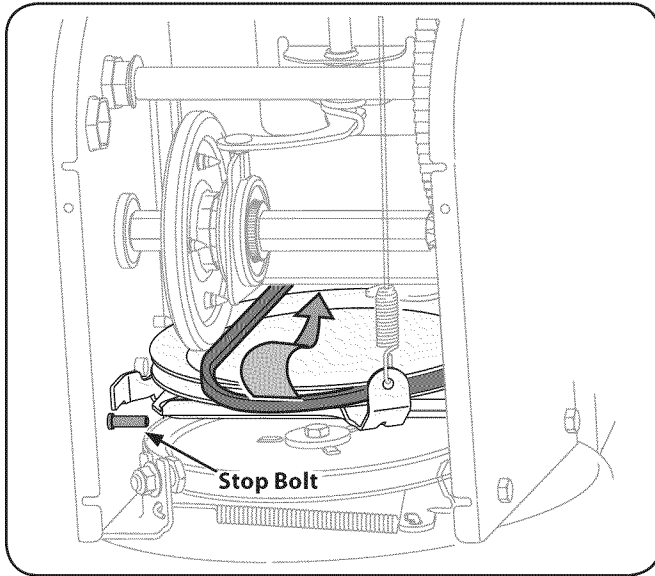

Fig. 7-7
6. Back out the stop bolt to increase the clearance between the friction wheel disc and friction wheel. See Fig. 7-7.
7. Slip the drive belt off the pulley and between friction wheel and friction wheel disc. See Fig. 7-7.